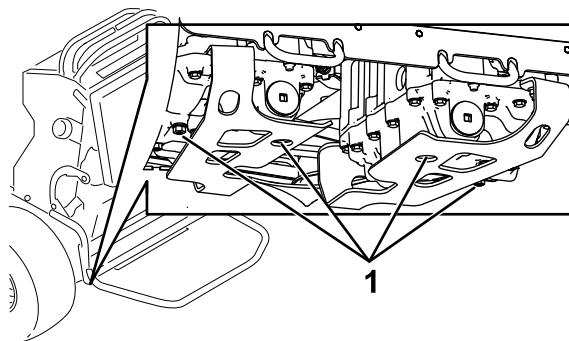

Figure 56
3. Locate the drain plugs in the bottom of the transmission and place a drain pan under the plug (Figure 56).